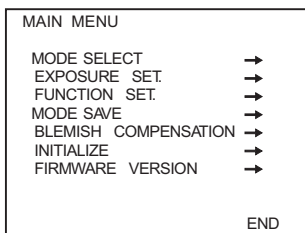

Fig.7-3 MAIN MENU
2. MAIN MENU appears on the monitor as shown in Fig.7-3.